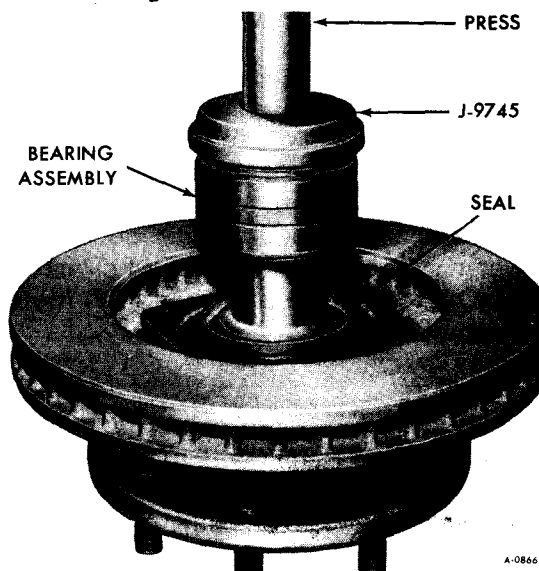

Figure 12—Installing Bearing
3. Install bearing as shown in figure 12.